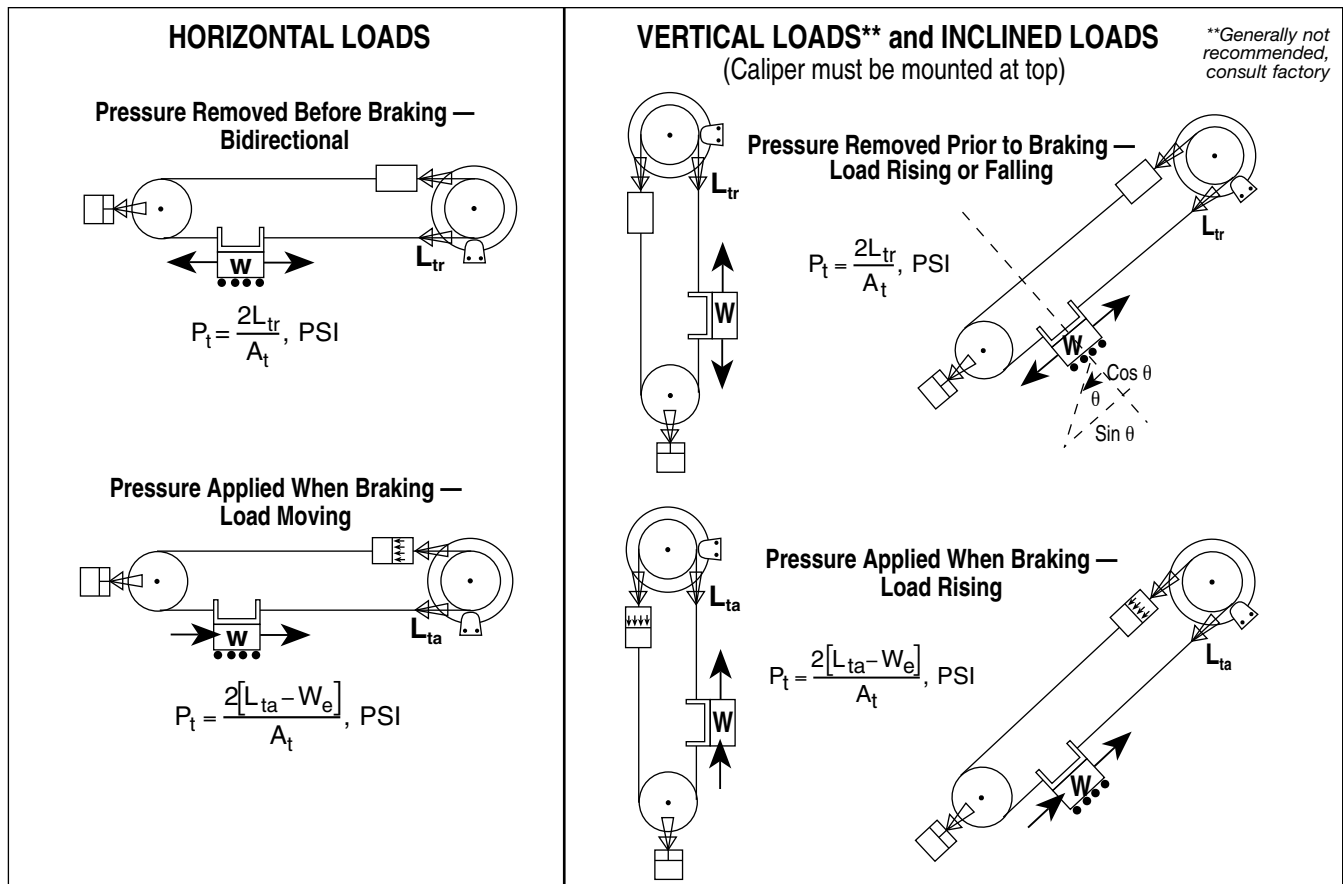

Figure 1
3. *Calculate the tangential braking force required.* This is (F_{tr}) when pressure is removed prior to braking, or (F_{ta}) when pressure is still applied when braking. Refer to illustrations in Figure 1.
5. Calculate tensioner pressure setting, (P_t) based on type of load configuration. See Figure 1 and Table 1